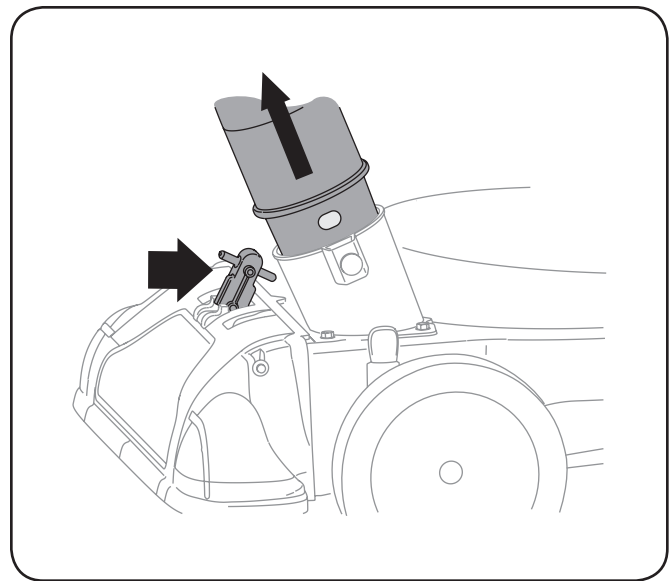

Figure 5-4
- Place nozzle/hose vac lever in the top position on the nozzle to vacuum through nozzle. See Fig. 5-4.
- The spring loaded pin must be in the first hole (closest to the end of the tube) of the hose adapter to operate the nozzle vac. See Fig. 5-4.